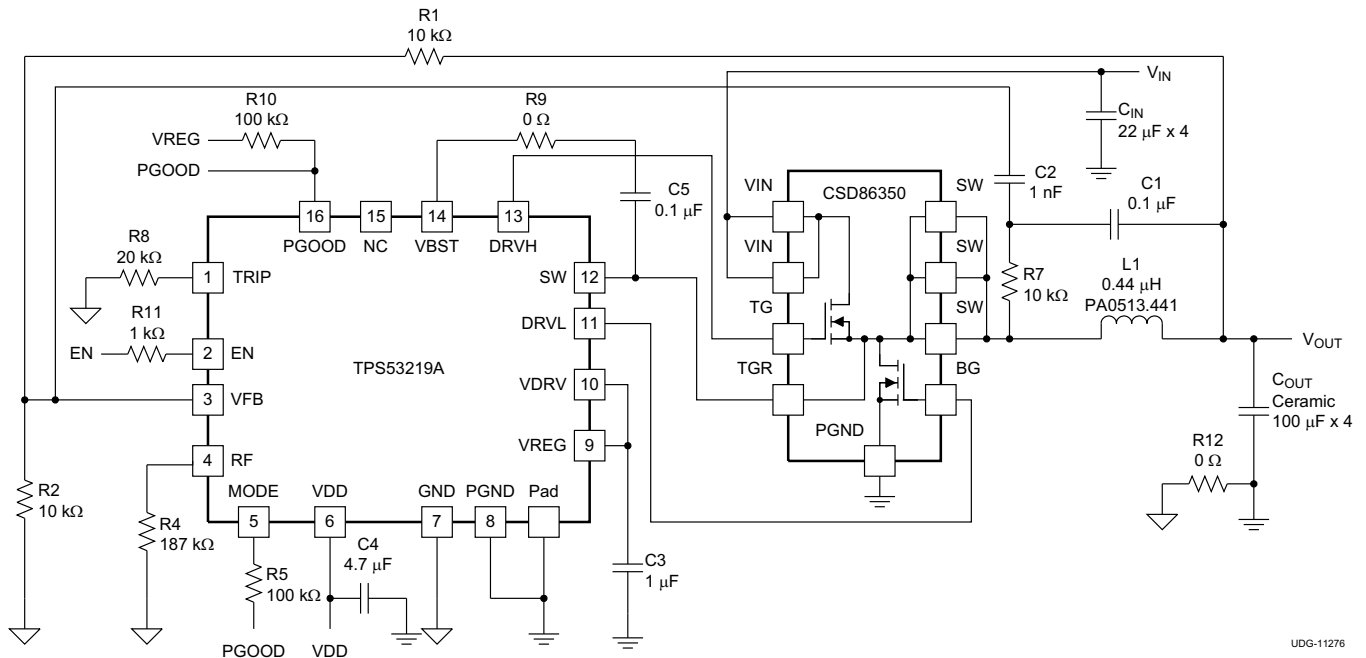

Figure 22. Typical Application Circuit Diagram With Ceramic Output Capacitors
When a ceramic output capacitor is used, the stability criteria in Equation 2 cannot be satisfied. The ripple injection approach as shown in Figure 22 is implemented to increase the ripple on the VFB pin and make the system stable. C2 can be fixed at 1 nF. The value of C1 can be selected between 10 nF to 200 nF.
- Connect the ripple injection  $V_{OUT}$  signal ( $V_{OUT}$  side of the C1 capacitor in Figure 22) from the terminal of ceramic output capacitor. The AC-coupling capacitor (C7 in Figure 22) can be placed near the device.